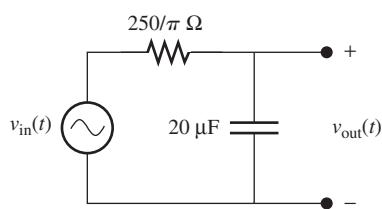

FIGURE P7.11 Circuit for Problem 7.11.
- 7.11** (A) Find the output, $v_{out}(t)$, of the filter in Figure P7.11, given: